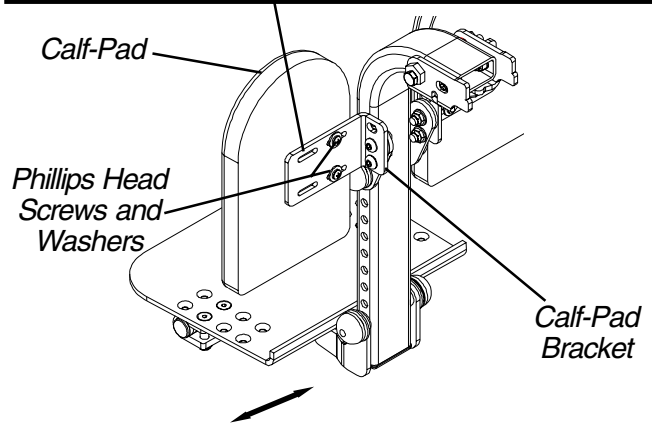

FIGURE 18 - ADJUSTING THE CALF-PAD WIDTH
**Adjusting the Calf-Pad Width (FIGURE 18)**
1. Loosen, DO NOT remove the two (2) phillips head screws and washers that secure the calf-pad to the calf-pad bracket.